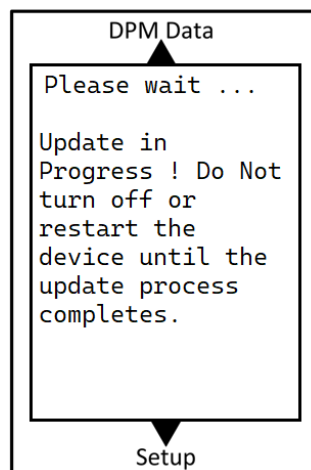

Figure 4.45
3. After the ".zip file" move is complete, safely remove the SD card from PC and insert back into the X35. When you connect power back to the module, the firmware update will begin on startup as shown in **FIGURE 4.45**.
3. After the copy is complete, safely remove the SD card from PC and insert back into the X35. When you connect power back to the module, the firmware update will begin on startup as shown back in **FIGURE 4.45**.